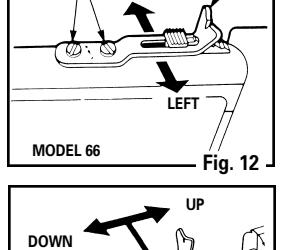

Fig. 12
- The rear sight may also be adjusted to shoot right or left (windage). Loosen the windage adjustment screws by turning them counterclockwise. Move the sight to the right to make the BB or pellet hit to the left of the target. Then tighten the windage adjustment screws by turning them clockwise (Fig. 12).